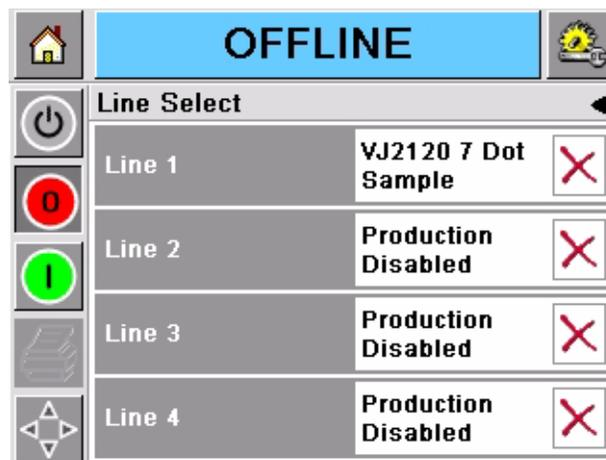

Figure 5-40: Line Select Page
- a. Touch the 'X' on the *Line Select* page (Figure 5-40).